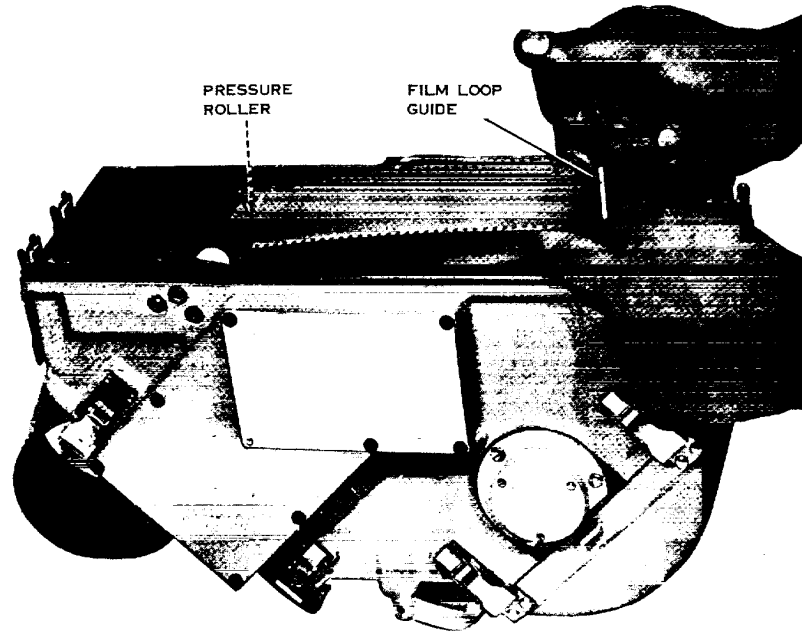

Figure 16. Forming Film Loop, Subdued Light Procedures (3).
d. Pull the film leading edge until the film forms a supply loop adjacent to the loop guide marking. Make sure the film is routed tightly about the pressure roller (fig. 16).